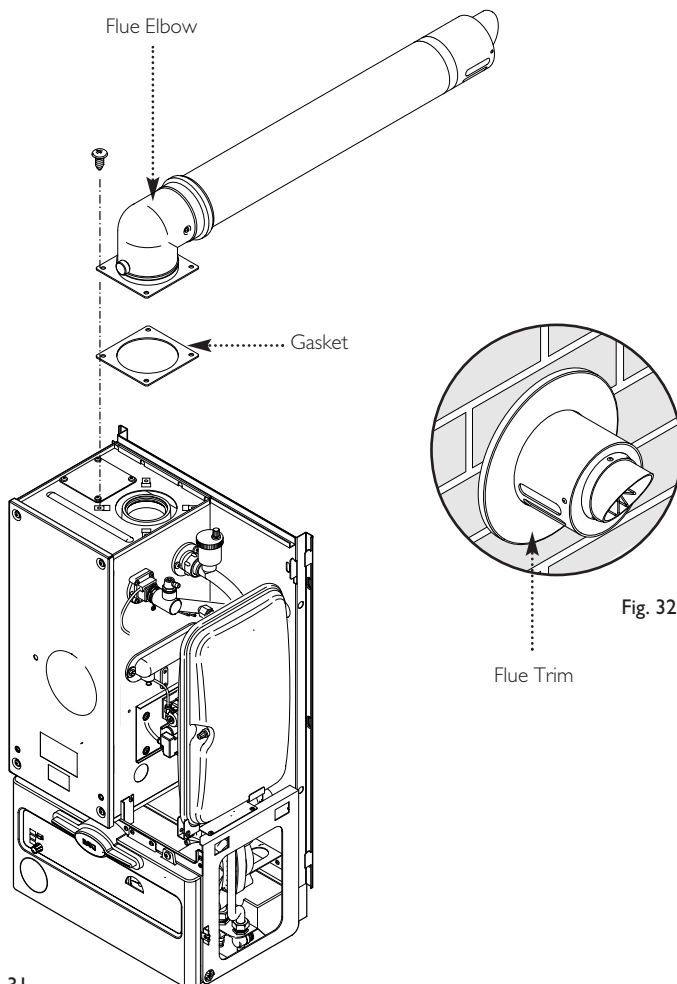

Fig. 31
7. Engage the flue into the flue elbow using soap solution to ease the engagement ensuring the flue is assembled as shown (Fig. 31).